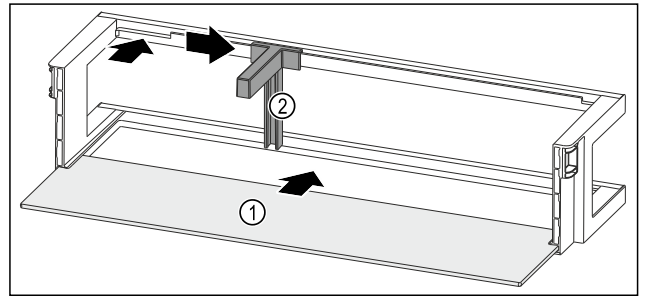

Fig. 184 Door rack with shelf
- ▶ Push the shelf Fig. 184 (1) into the side recesses.
- ▶ Insert the bottle holder Fig. 184 (2) in the recess.
- ▶ Push the bottle holder Fig. 184 (2) to the desired position to the side.